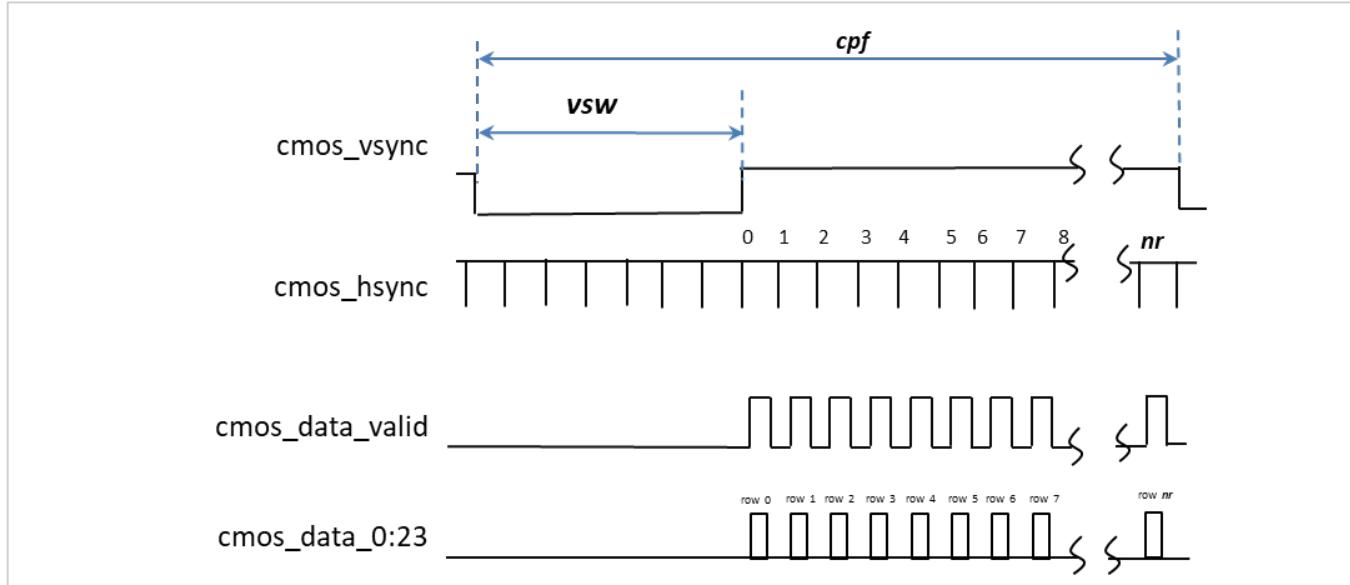

FIGURE 55: FRAME TIMING OF THE CMOS OUTPUT CHANNEL
2. Each frame period consists of three distinct sections as illustrated in Figure 55:
- b. A period when successive rows of data are provided. The total number of rows during each frame, *nr*, varies depending upon settings, as shown in Table 9. Note that the number of *cmos_hsync* pulses during a frame will typically exceed *nr* because, as illustrated in Figure 55, *cmos_hsync* continues to be output at a regular interval, even during the vertical sync and the blanking periods (i.e., even when *cmos_data_valid* is not being asserted).